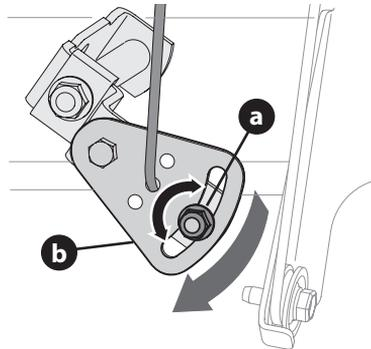

Figure 55
- Loosen hex nut (a) on shift cable index bracket (b) (Figure 55).